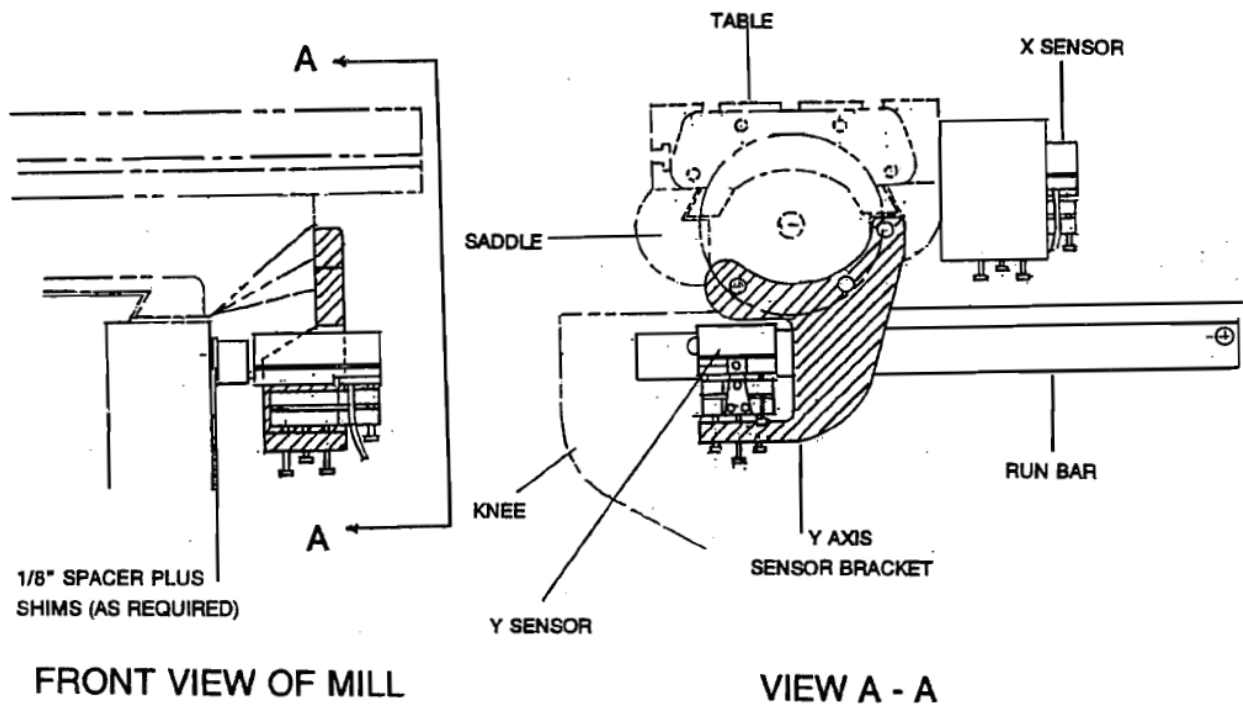

Figure 2-26
Note: The Y axis sensor is mounted on the right side of the saddle. Machines other than Bridgeport Series I may use different brackets and/or have different size mounting holes that may need retapping. See figure 2-26.
- a. Orient counterbored holes on the runbar towards the top (see figure 2-26).
- Step 3: Install Y-axis bracket with three (3) 1/4-20 x 1 1/4" screws.